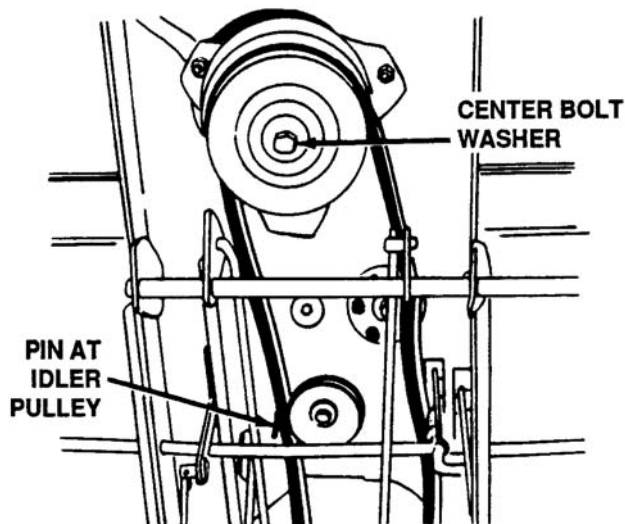

Figure 4-47. Location of Center Bolt and Pin
- g. Loosen the pin at the idler pulley and remove the electric clutch by removing the center bolt and washer. See Figure 4-47.